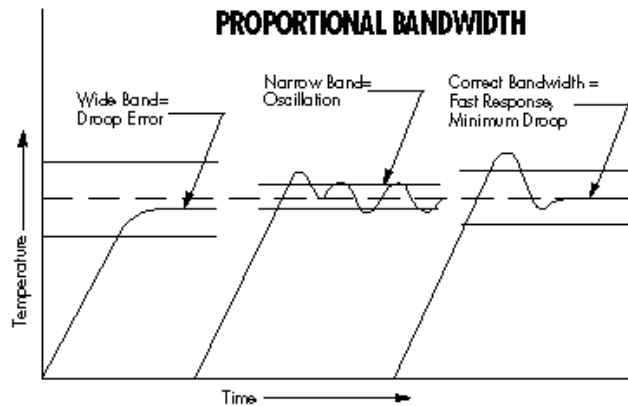

Figure 6.
- b) Bandwidth (Gain). **Figure 6.** Permits changing the modulating bandwidth to accommodate various process characteristics. High-gain, fast processes require a wide band for good control without oscillation. Low-gain, slow-moving processes can be managed well with narrow band to on-off control. The relationship between gain and bandwidth is expressed inversely: